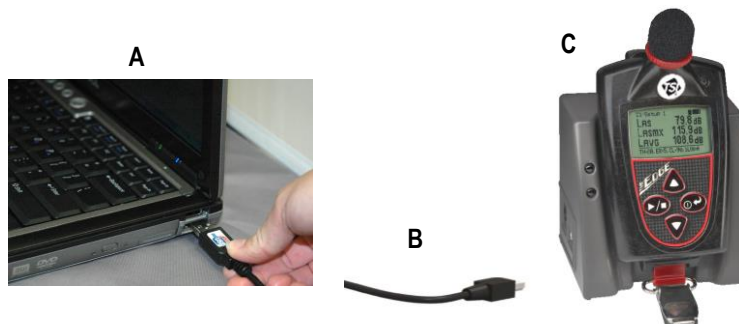

Figure 3-4: Communicating - connecting a docked Edge to a PC
2. Plug the USB cable into the computer. (See “A” in Figure 3-4).